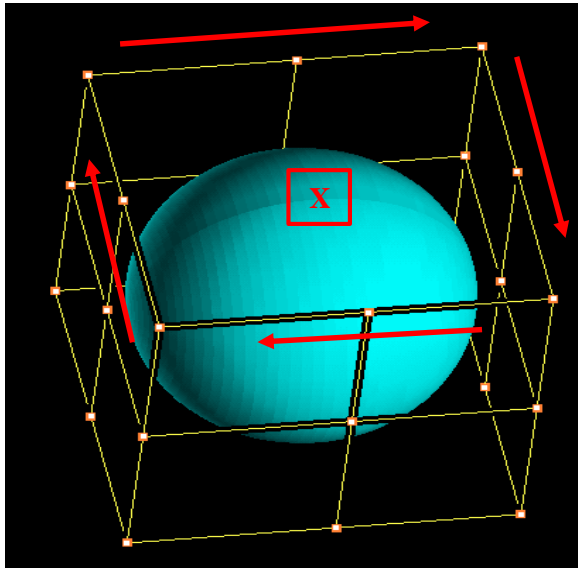

Figure 6a
- Nesting can be performed along 2-D sheet only as seen in figures 6a & 6b.